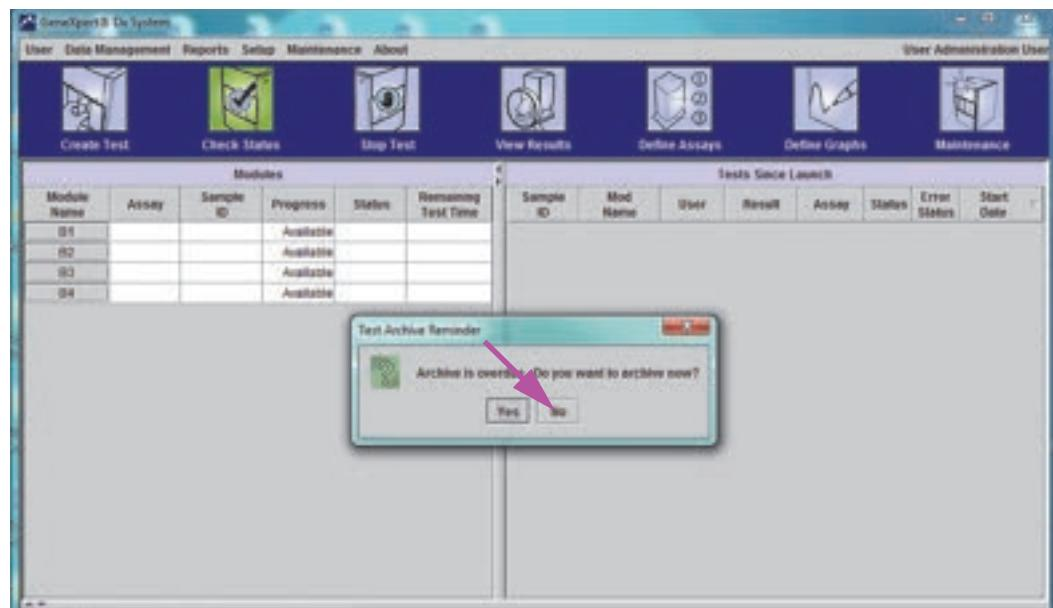
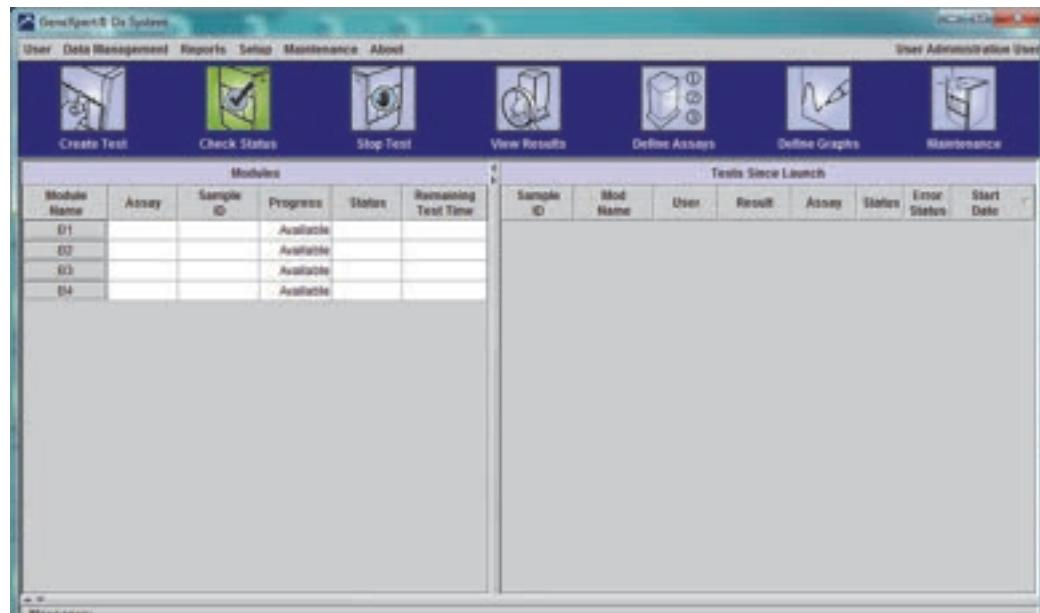

Figure 2-54. GeneXpert Dx System Window with Test Archive Reminder Dialog Box Overlay
Figure 2-55. GeneXpert Dx System Window
3. In the Test Archive Reminder box, click **NO** to proceed (see Figure 2-54). The GeneXpert Dx System screen appears (see Figure 2-55).
Before starting to use the GeneXpert Dx system software, the GeneXpert Dx system administrator and other system users must be defined. All the administrator functions are accessible from the Setup menu in the GeneXpert Dx System window. See Figure 2-54.